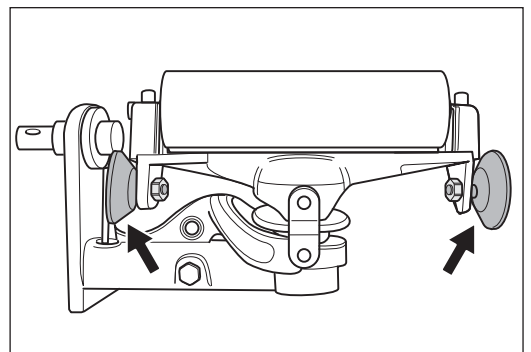

Fig. 37 **The two guide rollers must be rotatable easily! Otherwise they must be replaced! Similar to figure.**
- **The two guide rollers at the drive unit must be rotatable easily (Fig. 37)!**